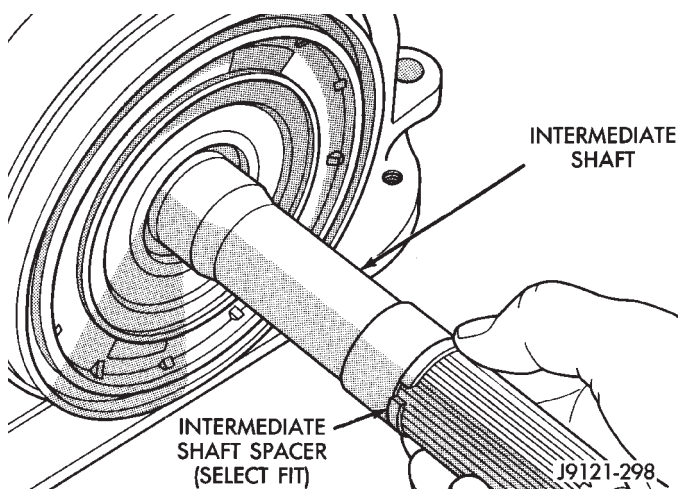

Fig. 2 Intermediate Shaft Spacer Location
(2) Remove intermediate shaft spacer (Fig. 2). Retain spacer. It is a select fit part and may possibly be reused.